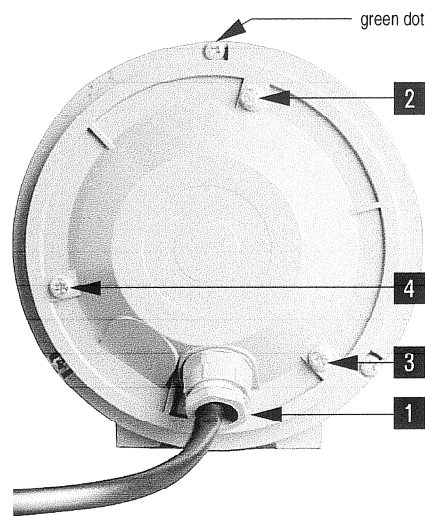

Fig. 1
7. Identify the modified motor by a green dot according to fig. 1.
3. Schraube [1] (Fig. 1) lösen (SW 22 mm).